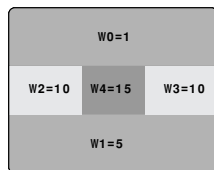

Fig. 1
- **PRESET 1** (Basic setting, see Fig. 1)
- **MANUAL 1** (or **MANUAL 2**) (Fig. 1, 3)